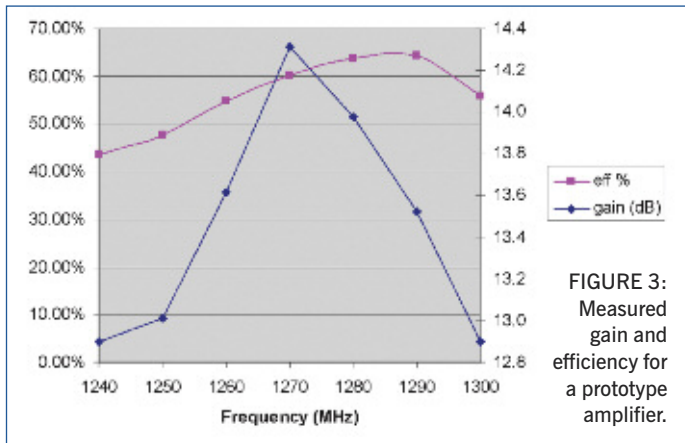

FIGURE 3: Measured gain and efficiency for a prototype amplifier.
**RESULTS.** Test results for a prototype amplifier are shown in **Figures 3** and **4**.